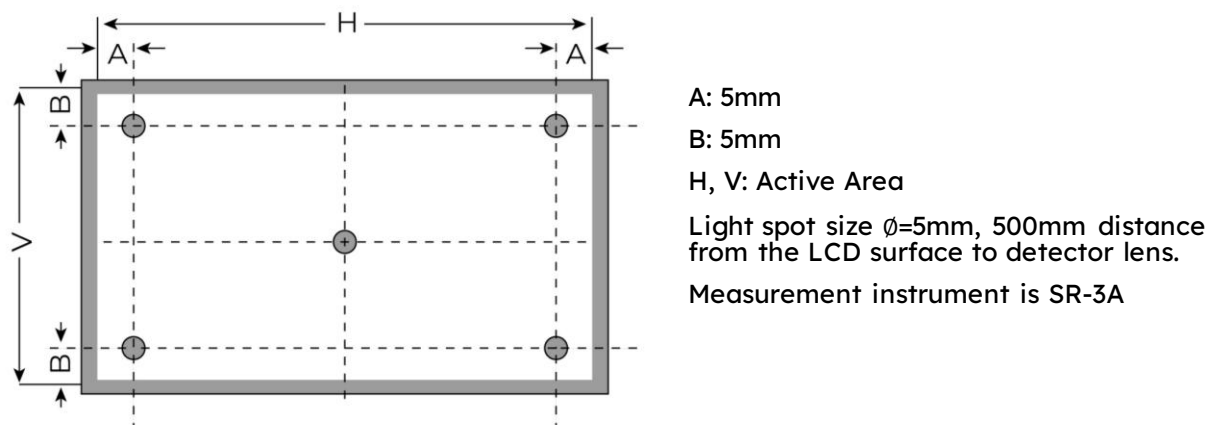

Figure 3. Measuring method for Contrast ratio, surface luminance, Luminance uniformity, CIE (x, y) chromaticity
| Contrast Ratio             | Cr       |                                                              | -    | 800  | 1000 | ---               | FIG 3. | 1, 7 |
| CIE (x, y)Chromaticity | Rx       | $\theta=0^\circ$$\phi=0^\circ$$T_a=25^\circ\text{C}$ | 0.22 | 0.26 | 0.30 | -                 | FIG 3. | 5,7  |
**Note 6.** For TFT module, viewing angle is the angle at which the contrast ratio is greater 10. The angles are determined for the horizontal or x axis and the vertical or y axis with respect to the z axis which is normal to LCD surface. For more information see Figure 3.